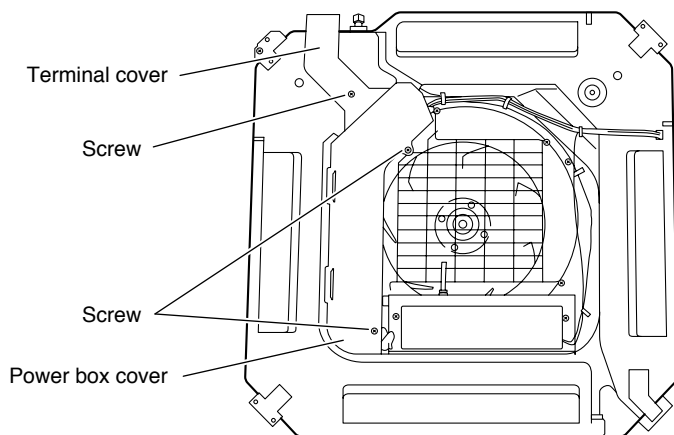

Fig.11
- (1) Remove a screw and remove the terminal cover. (Fig. 11)
- (2) Remove the 2 screws and remove the power box cover. (Fig. 11)